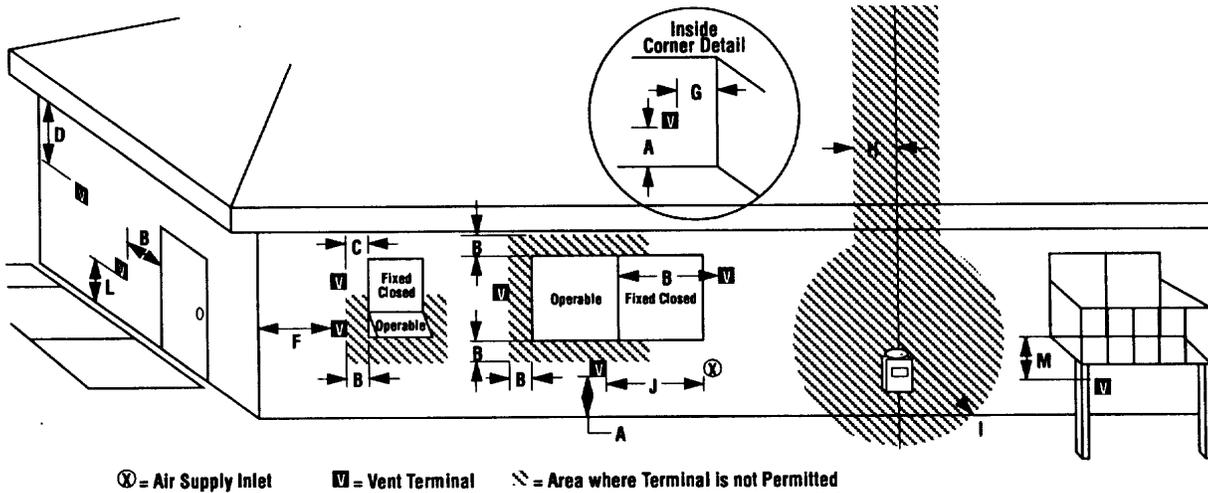
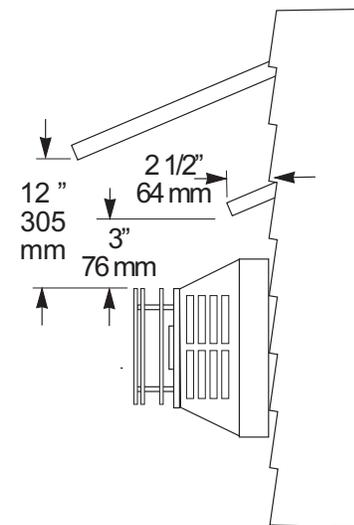

Figure 6. Vent Terminal Clearances - National Fuel Gas Code.
Figure 7. Vent Terminal Clearances - Overhangs
- The horizontal termination cap must maintain a 3" clearance to any overhead combustible projections exceeding 2 1/2" or less. Maintain 12" clearance from projections exceeding 2 1/2". See fig. 7. See fig. 6 for complete termination clearance information.